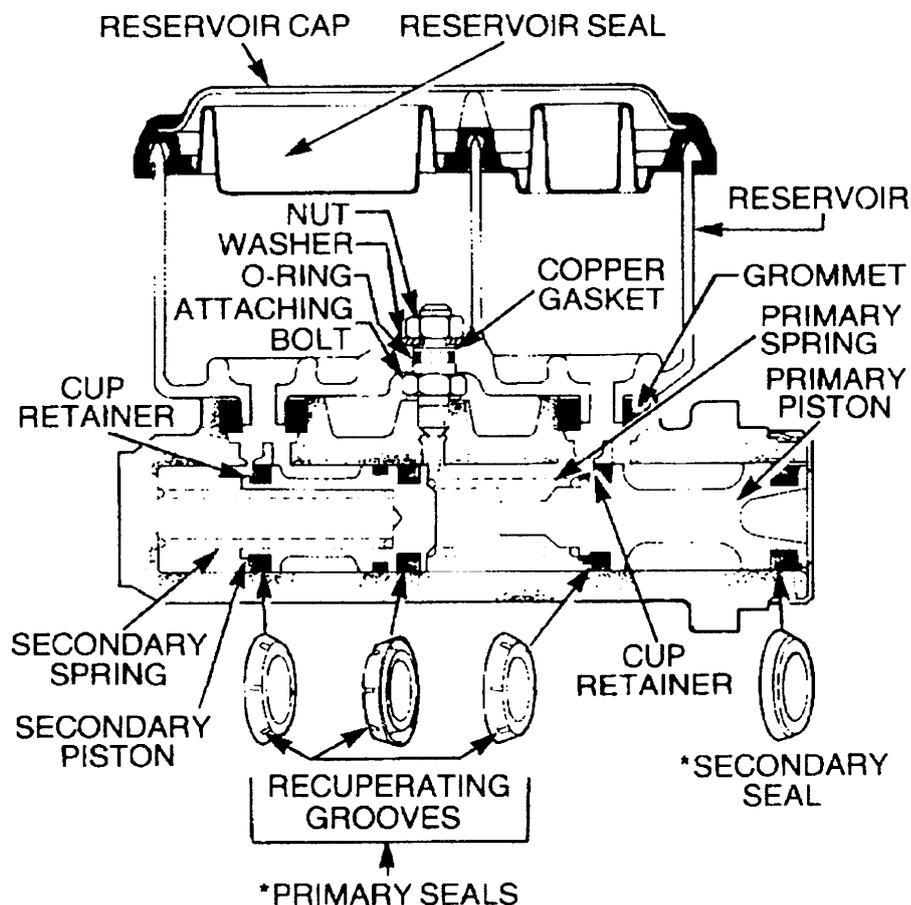
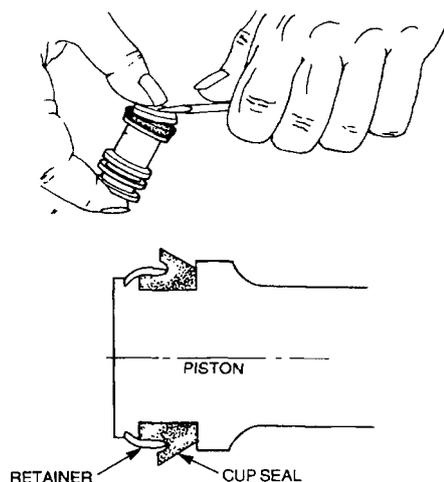

Figure 265 Brake Master Cylinder Pistons – Sectional View
Figure 266 Installing the Seal Retainer
92. Reassembly. Reassemble the brake master cylinder as follows (Figure 266):
There are two types of seals fitted to the pistons. These are the primary cup seal and the secondary cup seal. The primary seal is distinguished from the secondary seal by the six recuperating grooves around the circumference (Figure 265).
- b. Install a new O ring (Item 16) into the smaller of the two grooves at the end of the secondary piston (Item15) and install a new primary cup seal (Item 14) into the second groove, ensuring that the seal lip faces away from the O ring (Figure 265).
- c. Install a new primary cup seal (Item 14) into the shallow groove at the spring end of the secondary piston (Item15) ensuring that the seal lip faces towards the spring end (Figure 265).
- d. If the secondary piston has cup retainer groove at the spring end, locate part of the cup seal retainer (Item 13) in the groove on the piston, hold the retainer in position (Figure 266) and using a small screwdriver, clip the retainer into the groove, ensuring that the cup seal is not damaged. If the piston does not have a groove for the retainer, discard the retainer.
- e. Install a new primary cup seal (Item 14) into the shallow groove at the spring end of the primary piston (Item 18) ensuring that the seal lip faces toward the spring end (Figure 265). Locate part of the cup seal retainer (Item 13) in position (Figure 266) and using a small screwdriver, clip the retainer into the groove ensuring that the cup seal is not damaged.
- f. Install a new secondary cup seal (Item 19) into the groove at the push-rod hole end of the primary piston (Item 18) ensuring that the seal lip faces away from the push-rod hole end of the piston (Figure 265).